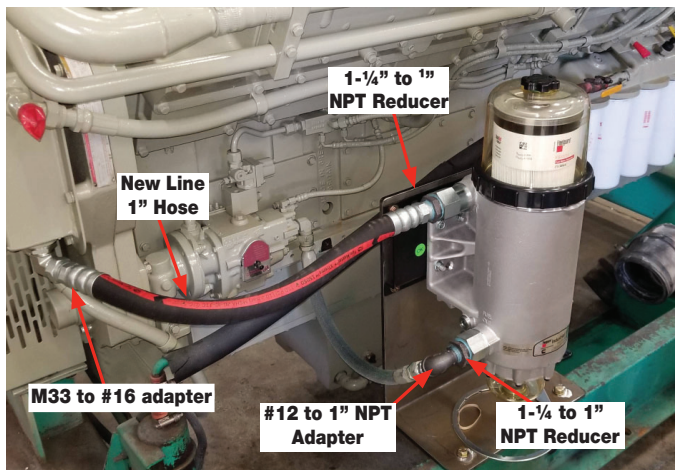

Figure 3: After 500 SE Upgrade
10. Replace fitting with M33 to #16 adapter on fuel module outlet (see figure 3 for steps 11-13).